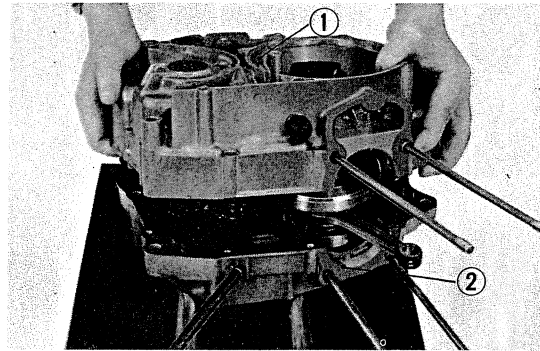

Fig. 82 Crankcase disassembly
- 6) Remove the drive sprocket and unscrew eleven 6 mm crankcase mounting bolts (one screw on the inside is mounted on the right crankcase), tap the crankcase with a wooden hammer and separate the crankcase. (Fig. 82)